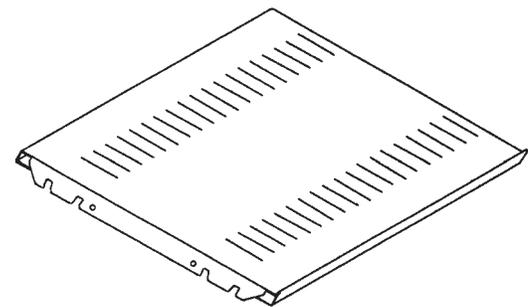

Figure 11 Shelf
STEP 13 - SHELVES AND ACCESSORIES (Figure 11–18)
- b. Check the spacing required and slide shelves in place. The front and back flanges on both sides of the shelves fit into the front and back louvers on both doors, on the same plane (Figure 11).